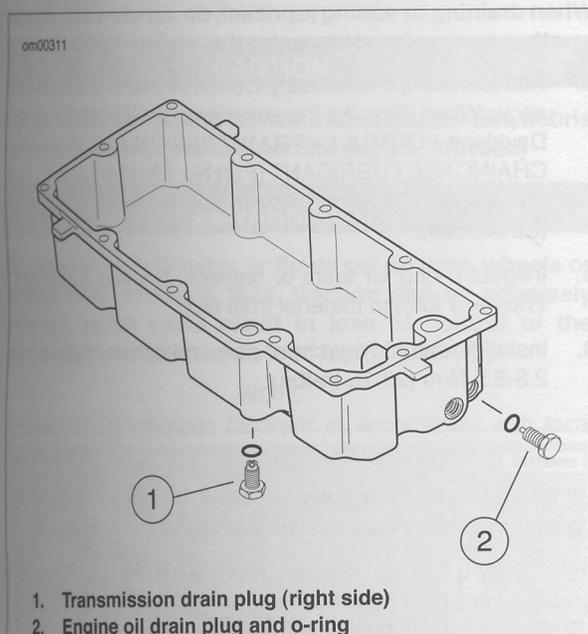

Figure 47. Oil Pan: Touring Models
3. See Figure 47. Locate oil drain plug at front left side of the oil pan. Remove the oil drain plug. Do not remove Allen plug. Allow oil to drain completely.
2. See Figure 47. Remove transmission drain plug from the right side of the oil pan and drain lubricant into a suitable container.